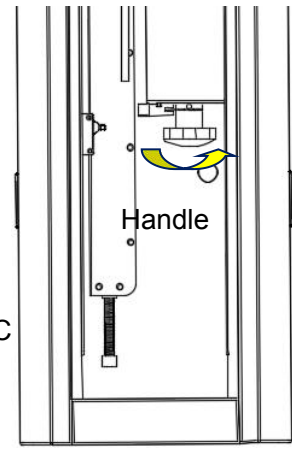

Figure 5-3
- 3) Use the motor handle to lift the boom in the case of a power failure, See Figure 5-3.